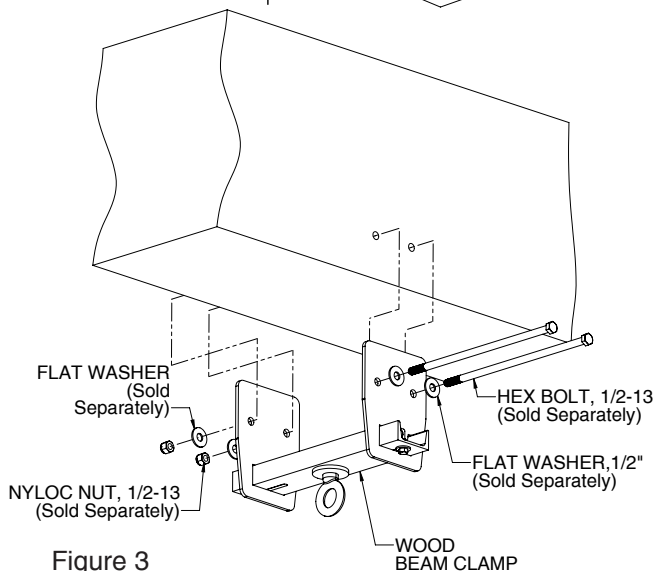

Figure 3
- Insert $1/2$ " dia. bolts with washers from one side until it protrudes from the opposite side plate. ***Bolts should be long enough to go through the width of the wood beam and the side plates.*** Secure side plate to beam with washers and nyloc nuts. (Figure 3).